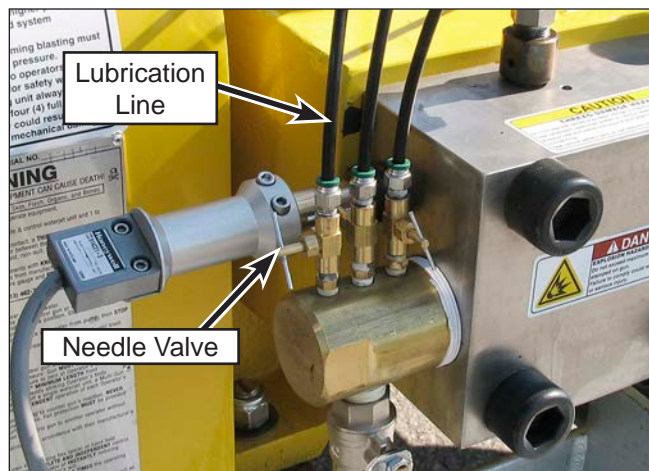

Figure 10: Needle Valve Adjustment (40K).
4. If needed, adjust the needle valves (Figure 10) to change the water flow. Needle valve location for the water lube will vary depending on the pump. A very small, but steady stream is all that is required. On the 6000 series, the water should not overflow the top-most hole. Too much flow will cause excessive splashing, which could cause water to be drawn into the power end, contaminating the oil. Adjust the needle valves to prevent excessive lubrication water flow. Re-check the lubrication water flow periodically during operation.